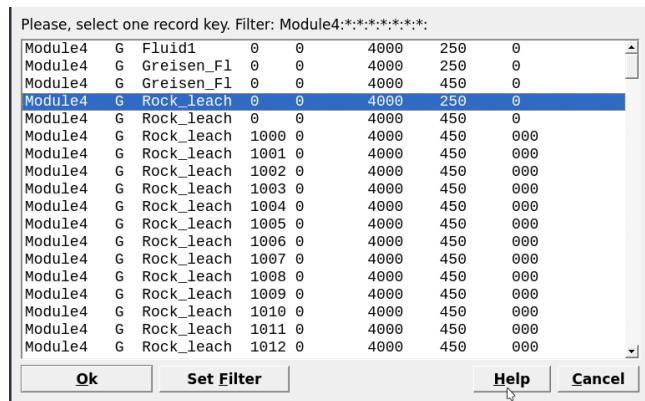

Figure 4.7: Selection of parent system equilibrium records for setting up a new multipass leaching model at 250 °C and 4 kbar.
- To change the model temperature, we are now going to create a new “Rock_leach” simulation by cloning the Process record and selecting the correspond parent chemical system at 250 °C (Fig. 4.7).